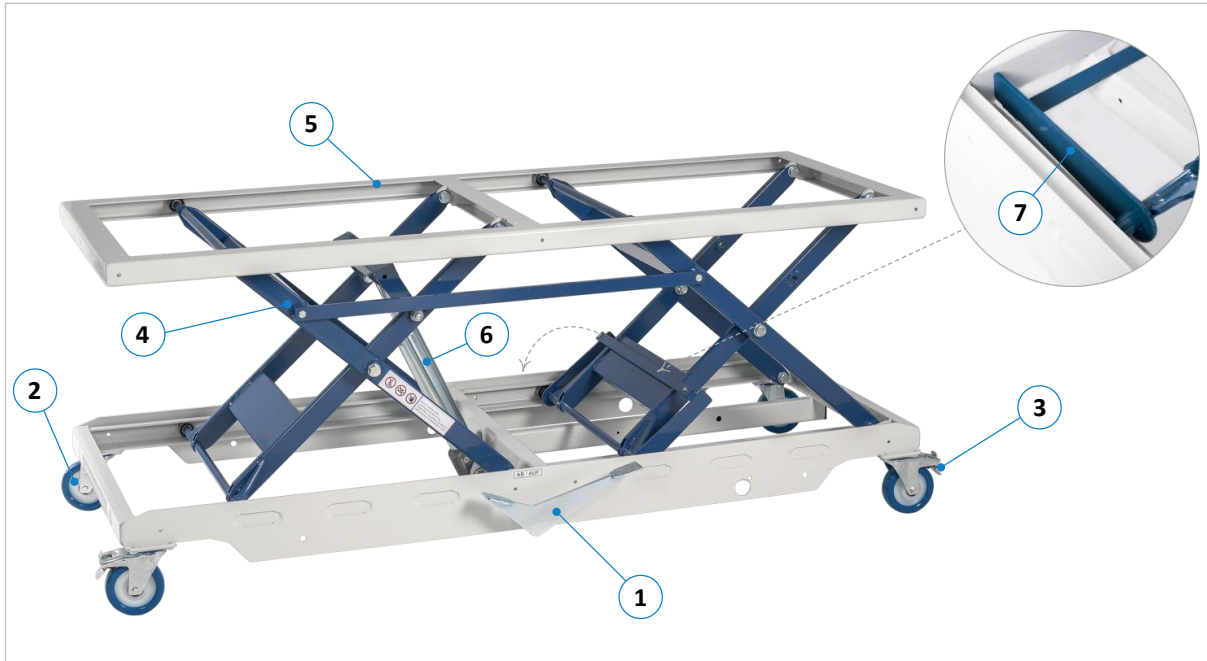
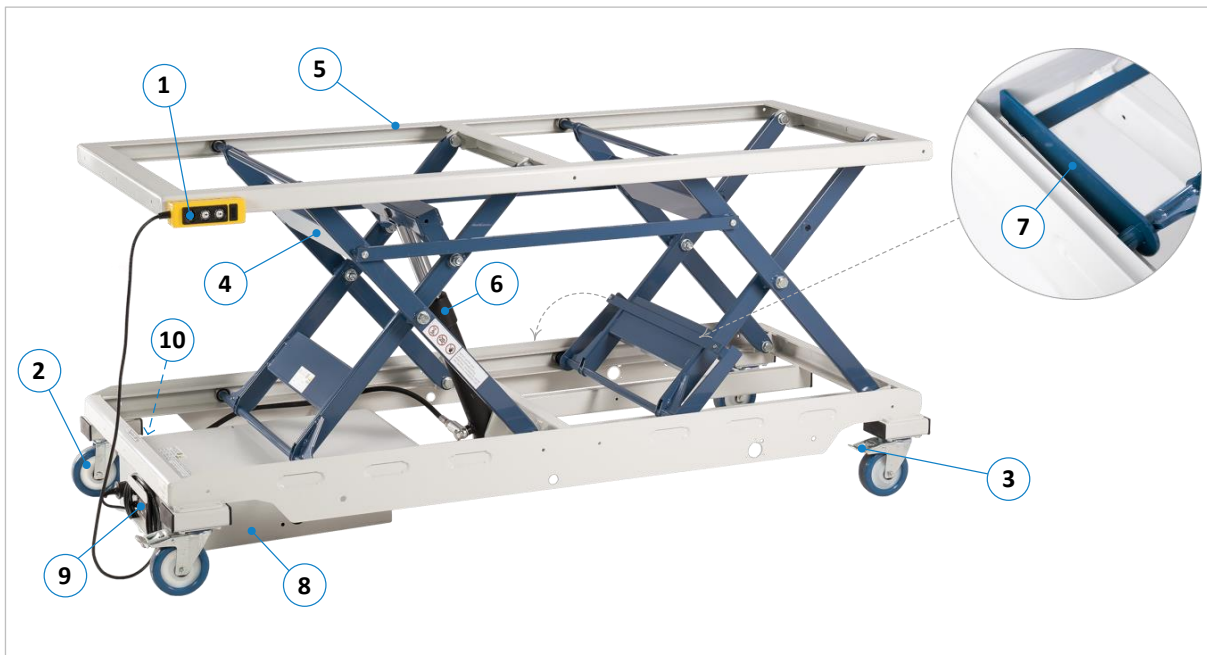
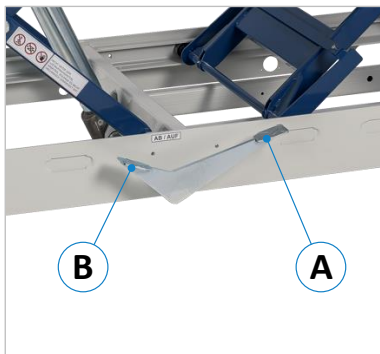

Figure 3: Components and controls of HS 300 LARGE | FH
Figure 4: Components and controls of HS 300 LARGE | AH
Figure 6: Foot pedal UP/DOWN
Before moving the lift table, release the two brakes (3) on the long side (refer to ⇒ Figure 3 resp. ⇒ Figure 4 Figure 6).
Before adjusting the height, first secure the lift table against rolling away with the two parking brakes. A foot pedal for height adjustment is attached to the longitudinal side of the lift table (⇒ Figure 6).